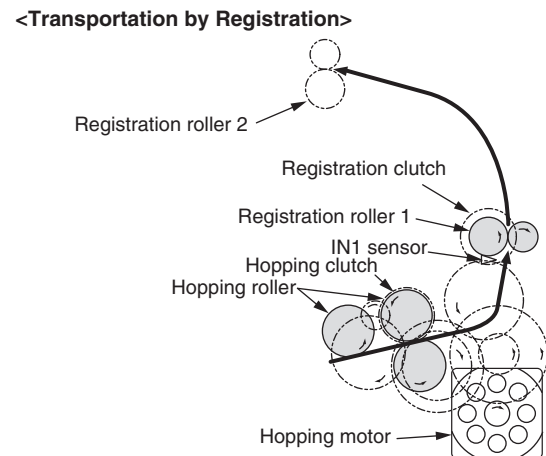

Figure 2-2
3. As shown in Figure 2-2, the hopping clutch and registration clutch are turned ON, the paper feed roller, and registration 1 roller drive to transport the paper. (Driving the paper feed roller is an operation to give the pushing for the paper transfer.)